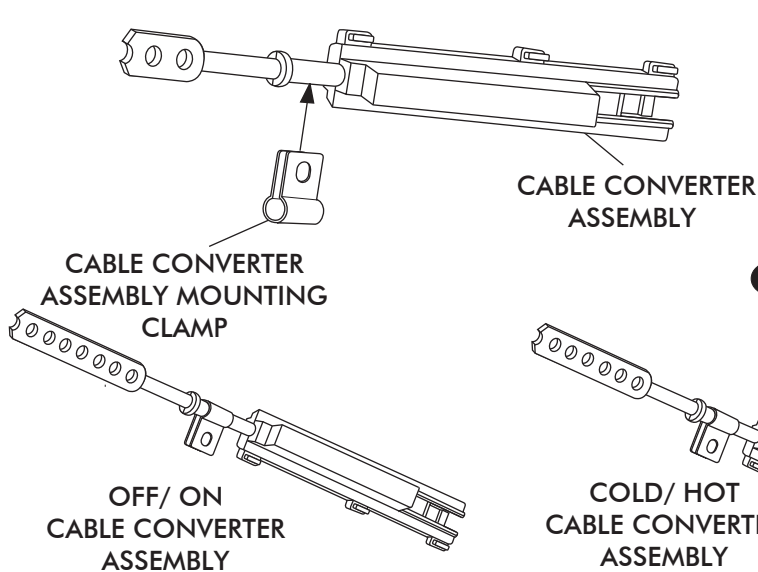

FIGURE 3
- INSTALL CABLE CONVERTER ASSEMBLY MOUNTING CLAMPS. SEE FIGURE 3 BELOW